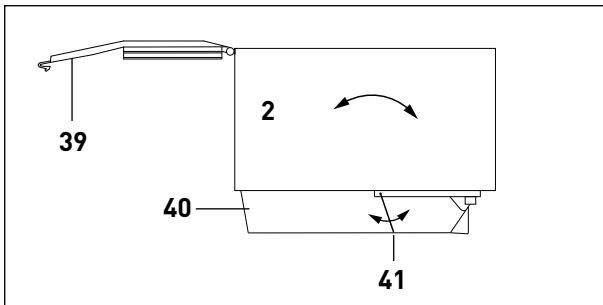

Figure 16
There is a non-return flap (41) in the air duct (40) on the bottom of the dust container (4) (figure 16). Check this flap for free movement every time the dust container is emptied. It should move freely when the dust container is shaken back and forth. If this flap is blocked by debris, the air path will be obstructed resulting in poor suction.
Remove the Dust Container (see page 11). There is a non-return flap (41) in the air duct (40) on the bottom of the dust container (figure 16). Check this flap for free movement. It should move freely when the dust container is shaken back and forth. If this flap is blocked by debris, the air path will be obstructed resulting in poor suction, and should be cleaned out.